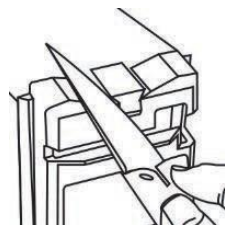

Fig. 7
3. Insert the base of the knife's blade into one of the knife sharpening slots (A) until it touches the grinding wheel (Fig. 7).